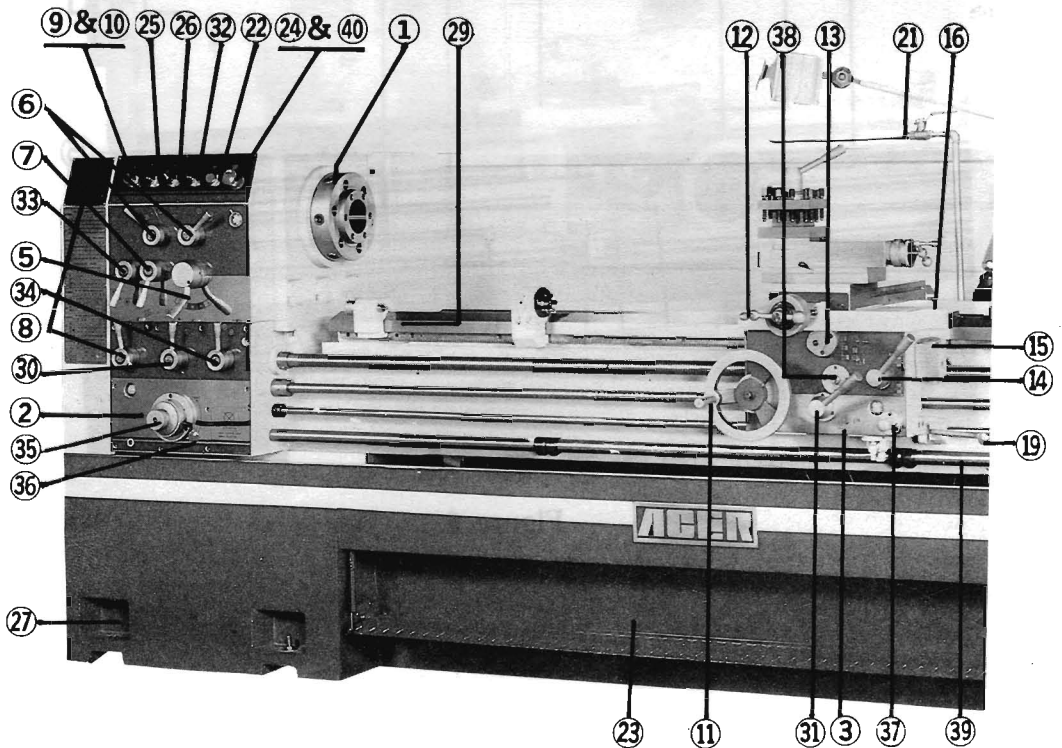

Figure 9
- 2) Then according to Fig. 9 shift levers ⑧ & ⑩ & ⑩ & ⑩ to the desired position. Put lever ⑩ to one of nine positions.
- 3) Shift lever ⑩ to select direction of spindle rotation.
- 4) Push lever ⑩ down (half nut engaged) to start threading.